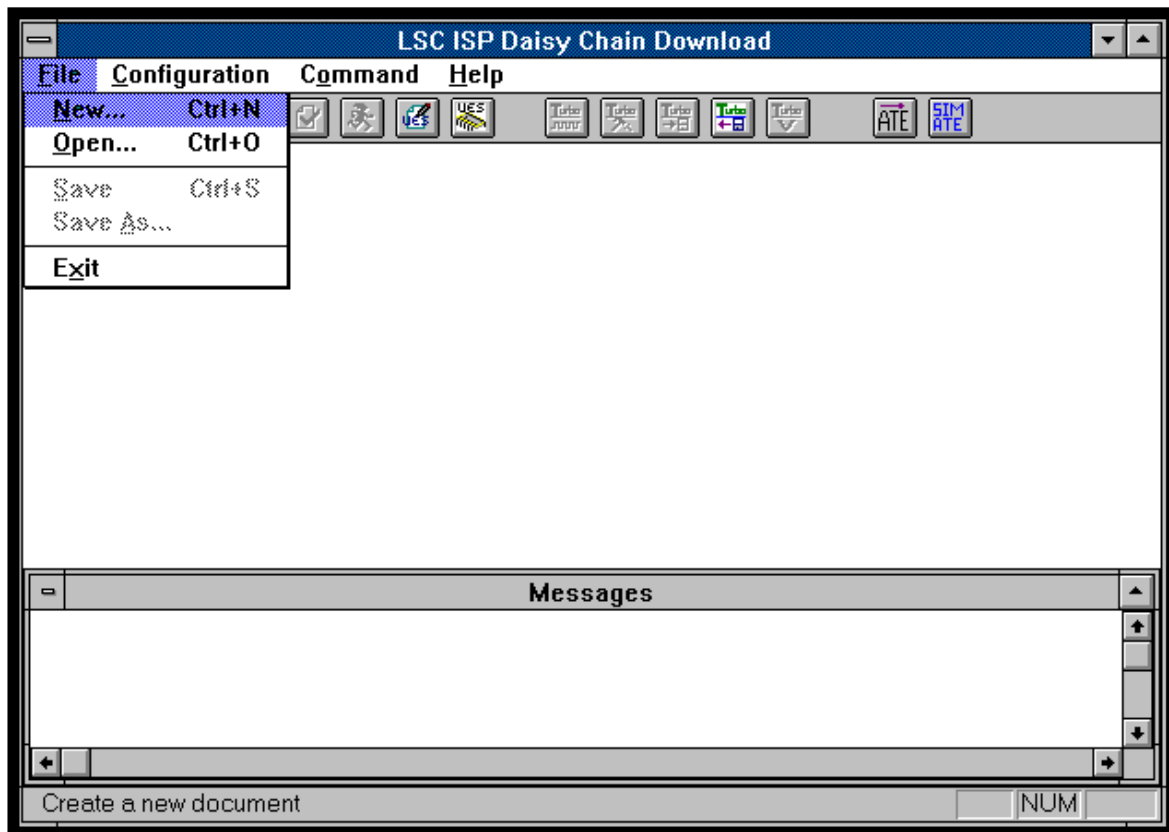
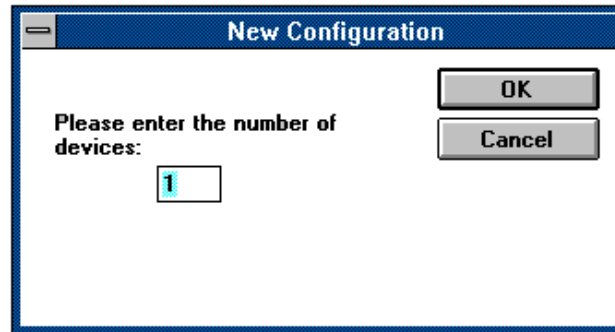

Figure 3-2. **File** ⇒ **New** Menu Option
Figure 3-3. New Configuration Dialog Box
1. Select **File** ⇒ **New** or click the **New** icon from the ISP Daisy Chain Download menu (Figure 3-2). The New Configuration dialog box appears (Figure 3-3).